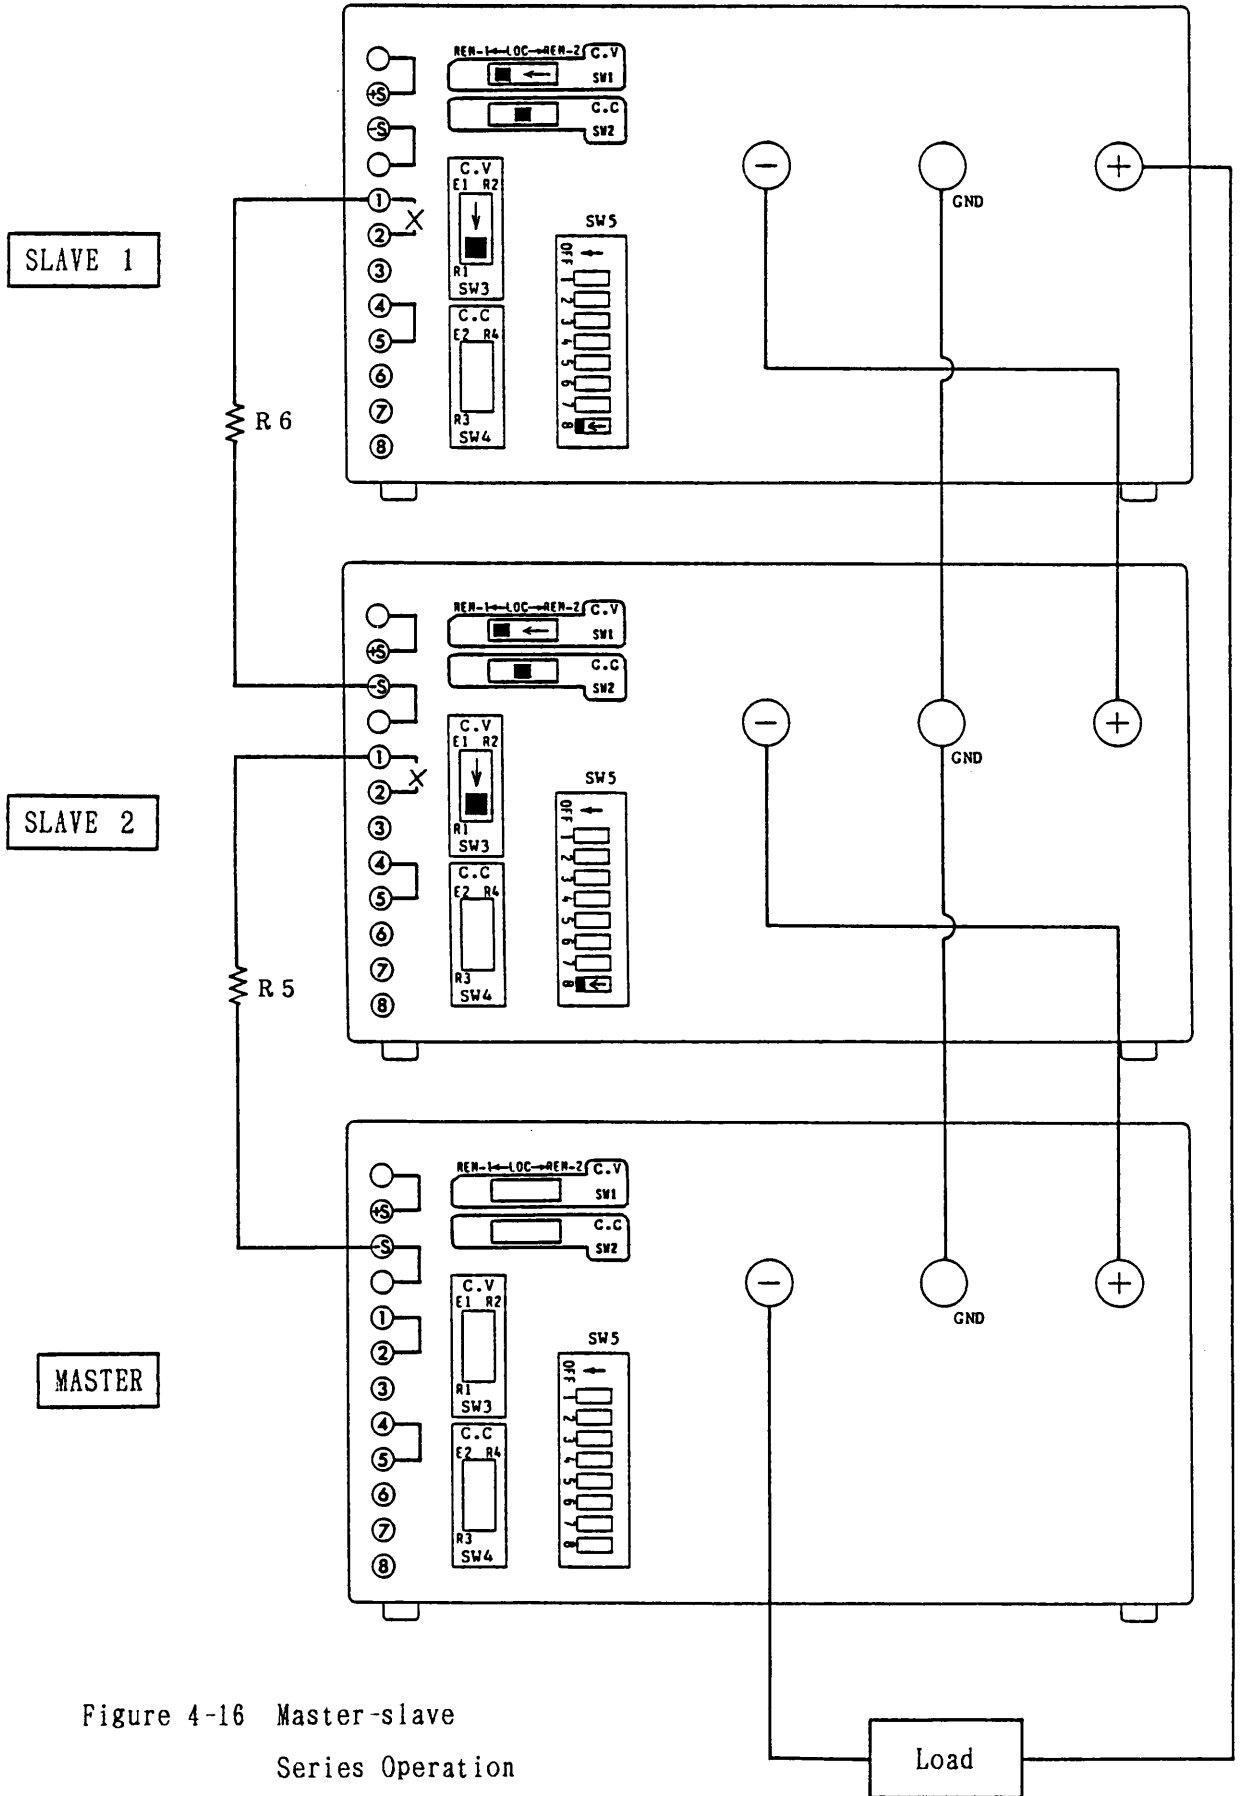

Figure 4-16 Master-slave
- (1) Turn off the POWER switches.
- (2) Referring to Figure 4-16, the bottom unit is the master and all upper units are slaves.
- (3) Connect resistor R5 (R6) between terminal ① of the rear terminal block of each slave unit and the ⑤ terminal of that of the unit below the above unit as shown in Figure 4-16. (Disconnect the jumper from between terminals ① and ② of each slave unit.)
- (4) Connect in series the outputs of all units.
- (5) Connect together the GND terminals of all units, and connect it to a line of the voltage you may require.
- (6) Turn fully clockwise the current setting knob of each slave unit.
- (7) Throw the SW1 switch on the rear panel of each slave unit to the REM-1 position.
- (8) Throw the SW3 switch on the rear panel of each slave unit to the R1 position.
- (9) Set the 8th element on SW5 of the rear panel to the OFF state.
- (10) Regarding the switches for which no settings are specified in Figure 4-16, set them to the standard states as shown in Figure 2-19 (See Section 2.4.) or to appropriate states for respective modes (See Sections 4.1 through 4.11.).